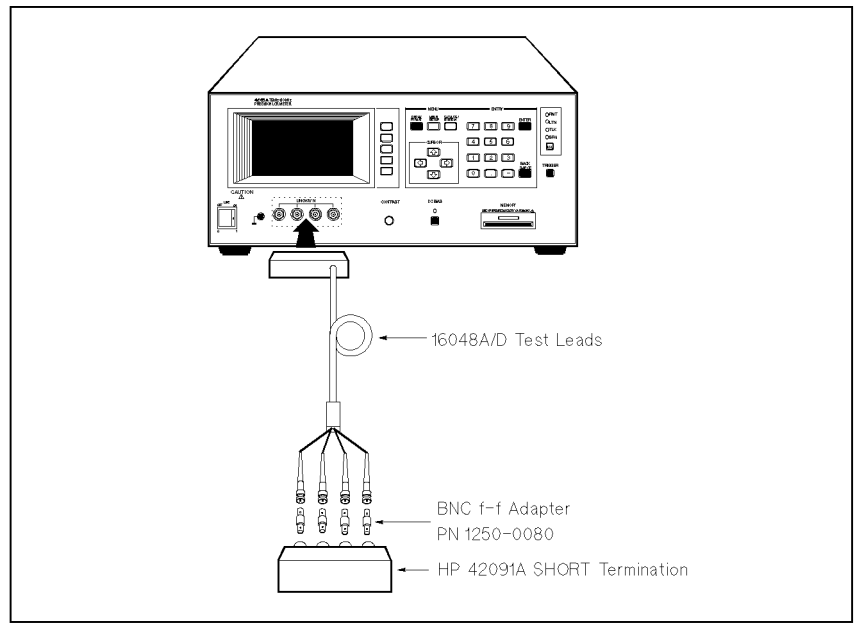

Figure 3-18. SHORT Termination Connection
9. Connect the 42091A SHORT Termination of the 42100A and the 16048A/D test leads with the furnished BNC f-f adapters as shown in Figure 3-18.